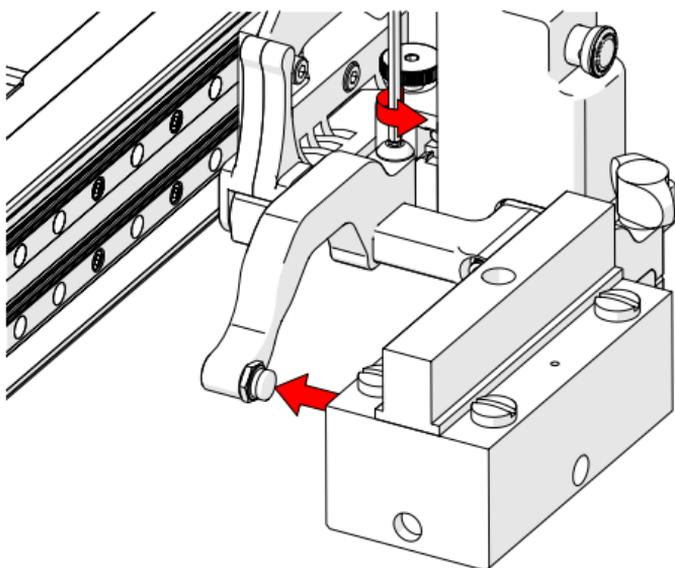

Fig. 116 - Adjust inner arm
4. Loosen the arm clamp screw (Fig. 116).
5. Place the wedge on the pivot button of the inner probe holder arm (Fig. 116).